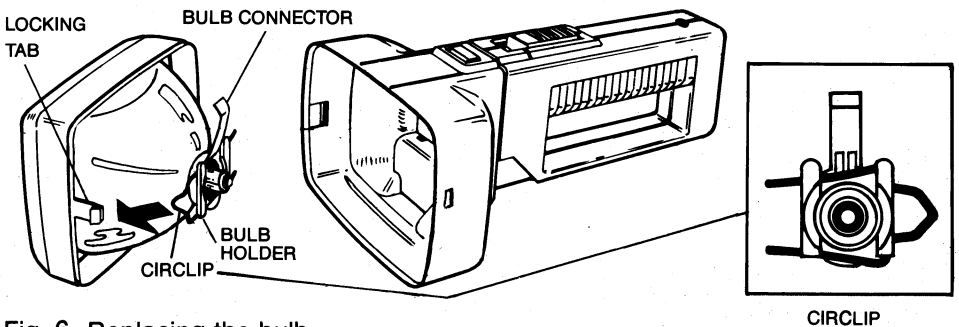

Fig. 6. Replacing the bulb
1. Pull off the reflector cover while pressing the side locking tabs. Fig. 6.
4. Put back the bulb holder and lock it with the bulb holder circlip ensuring that the bulb connector points upwards as in Fig. 6.